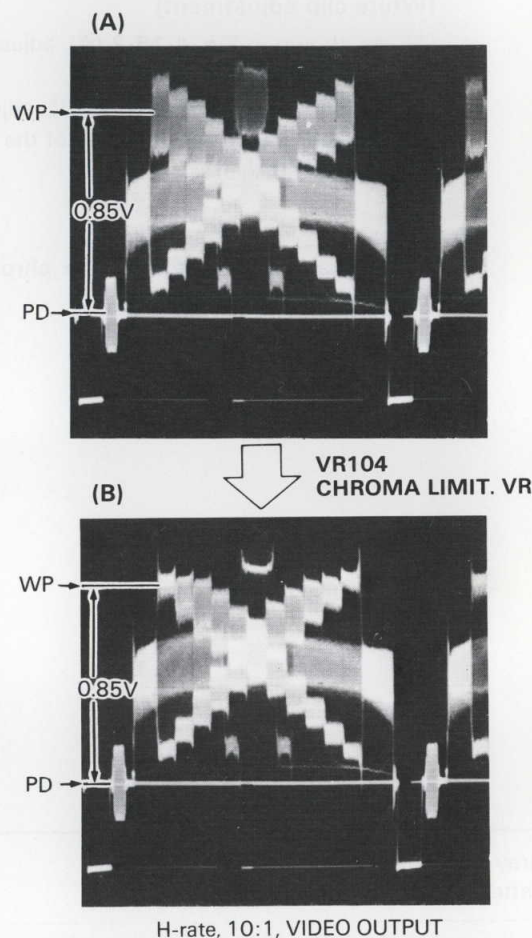

Fig. 4-16-1 Chroma limiter adjustment
- (1) Preset **VR401 W CLIP VR** fully counterclockwise.
- (2) Switch the **filter ring** of the lens to the **IN position**.
- (3) Adjust the iris so that the video amplitude at the **VIDEO OUTPUT** terminal is set to **0.85 V_{PD-WP}**. (See Fig. 4-16-1 (A))
- (4) Turn **VR104** clockwise little by little and stop it where the carrier amplitude at the **0.85V level becomes zero** as shown in Fig. 4-16-1 (B). (Do not turn too much.)
- (5) Set the **filter ring** of the lens back to the **OUT position**.